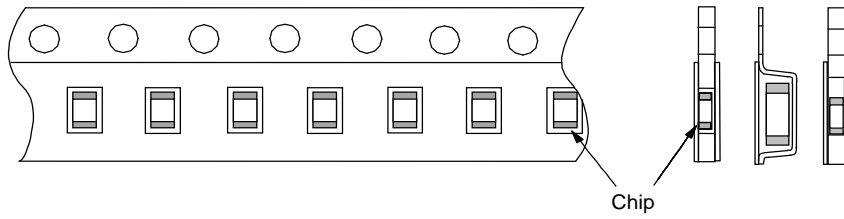

Fig.2 Dimensions of Reel
| 18 | Board Flex | Appearance | No marking defects | | <p>Solder the capacitor on the test jig (glass epoxy board) shown in Fig1 using a eutectic solder. Then apply a force in the direction shown in Fig 2 for 5±1sec. The soldering should be done by the reflow method and should be conducted with care so that the soldering is uniform and free of defects such as heat shock.</p> <table border="1"> <thead> <tr> <th>Type</th> <th>a</th> <th>b</th> <th>c</th> </tr> </thead> <tbody> <tr> <td>GCM03</td> <td>0.3</td> <td>0.9</td> <td>0.3</td> </tr> <tr> <td>GCM15</td> <td>0.5</td> <td>1.5</td> <td>0.6</td> </tr> <tr> <td>GCM18</td> <td>0.6</td> <td>2.2</td> <td>0.9</td> </tr> <tr> <td>GCM21</td> <td>0.8</td> <td>3.0</td> <td>1.3</td> </tr> <tr> <td>GCM31</td> <td>2.0</td> <td>4.4</td> <td>1.7</td> </tr> <tr> <td>GCM32</td> <td>2.0</td> <td>4.4</td> <td>2.6</td> </tr> </tbody> </table> <p style="text-align: right;">(in mm)</p> | Type | a | b | c | GCM03 | 0.3 | 0.9 | 0.3 | GCM15 | 0.5 | 1.5 | 0.6 | GCM18 | 0.6 | 2.2 | 0.9 | GCM21 | 0.8 | 3.0 | 1.3 | GCM31 | 2.0 | 4.4 | 1.7 | GCM32 | 2.0 | 4.4 | 2.6 |
1.11 Reel is made by resin and appeaser and dimension is shown in Fig 2. There are possibly to change the material and dimension due to some impairment.